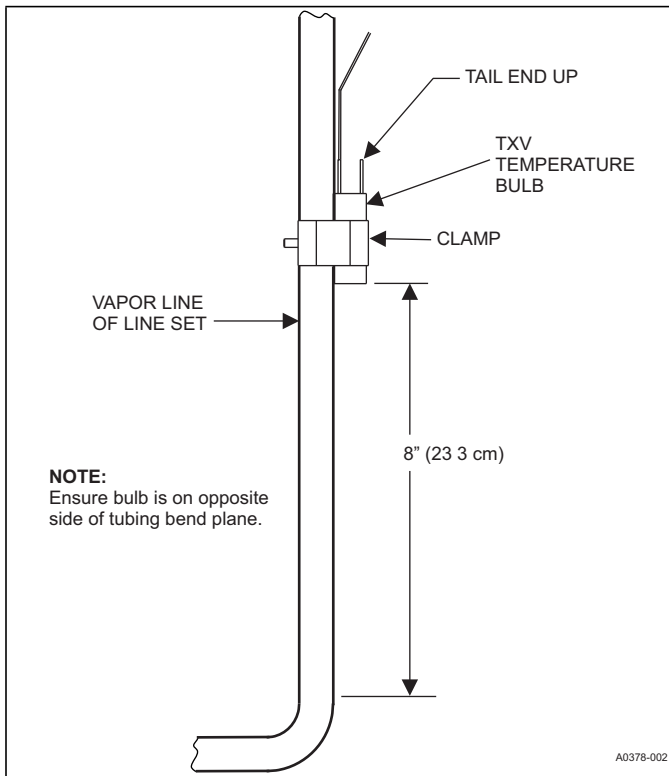

FIGURE 8: Vertical Temperature Bulb Orientation
- If bulb installation is made on a vertical run, ensure that the bulb is a minimum 8 inches (23.3 cm) away from elbow coming out of the coil. Position the bulb with the tail of the bulb at the top, so that the bulb acts as a reservoir. See Figure 8.